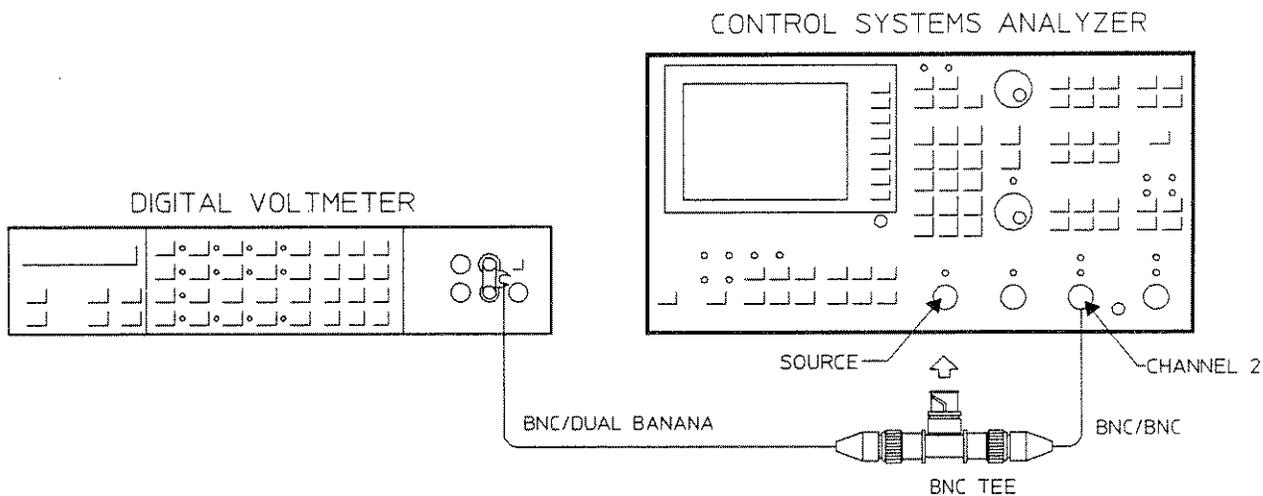

Figure 4-30. Source Energy Measurement Test Setup
1. Connect the test instruments as shown in Figure 4-30.